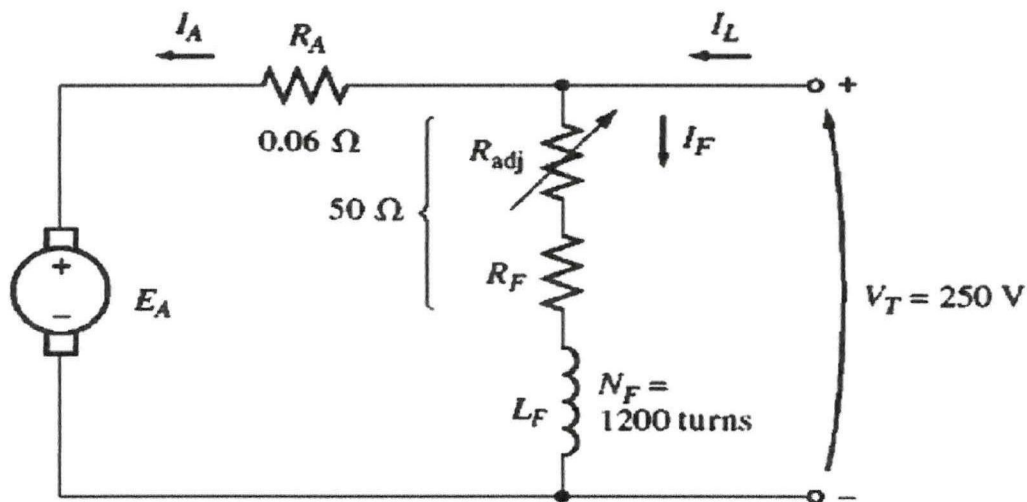

Figure Q4(b)
- (iii) Suggest **ONE (1)** solution to avoid the problem stated in question **Q4(a)(ii)** to happen. (1 mark)
- (b) A 50 hp, 250 V, 1200 r/min, DC shunt motor with compensating windings has an armature resistance which including the brushes, compensating windings, and interpoles of 0.06Ω . Its field circuit has a total resistance $R_{adj}+R_F$ of 50Ω , which produces a no load speed of 1200 rpm. There are 1200 turns per pole on the shunt field winding as shown in **Figure Q4(b)**.